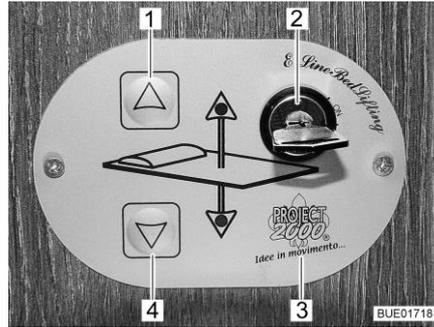

Fig. 96 Control unit
The pull-down bed is raised or lowered using the buttons (Fig. 96,1 and 4) on the control unit (Fig. 96,3). The control unit is protected against unauthorized use with the key switch (Fig. 96,2).
- Turn the key in the key switch (Fig. 96,2) by 90° in a clockwise direction to position "On". The control unit (Fig. 96,3) is activated.
- Press the arrow key (Fig. 96,4) and keep it pressed until the pull-down bed has moved down into the desired position.
- Press the arrow key (Fig. 96,1) and keep it pressed until the pull-down bed has moved down into the final upper position.
If it is no longer possible to move the pull-down bed with the arrow keys (Fig. 96,1 and 4), first of all check the fuses (see section 9.10.1). If the fuses are okay and it is still not possible to move the pull-down bed, the pull-down bed can be operated manually in emergency operation.